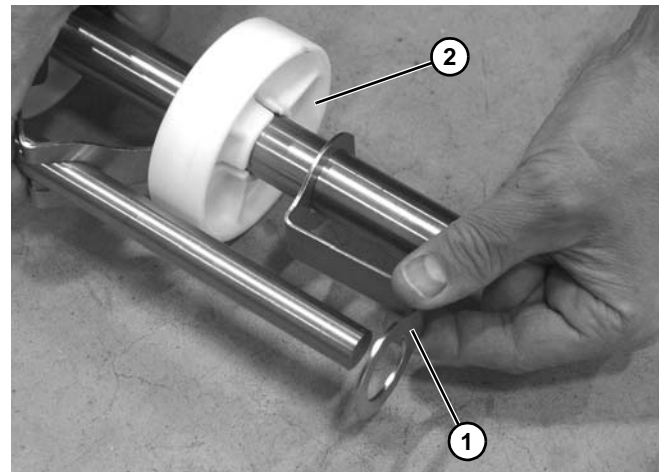

Figure 93
7. Remove outside idler puck end spacer (**Figure 93, item 1**).
8. Slide off the puck (**Figure 93, item 2**) from the puck rod.